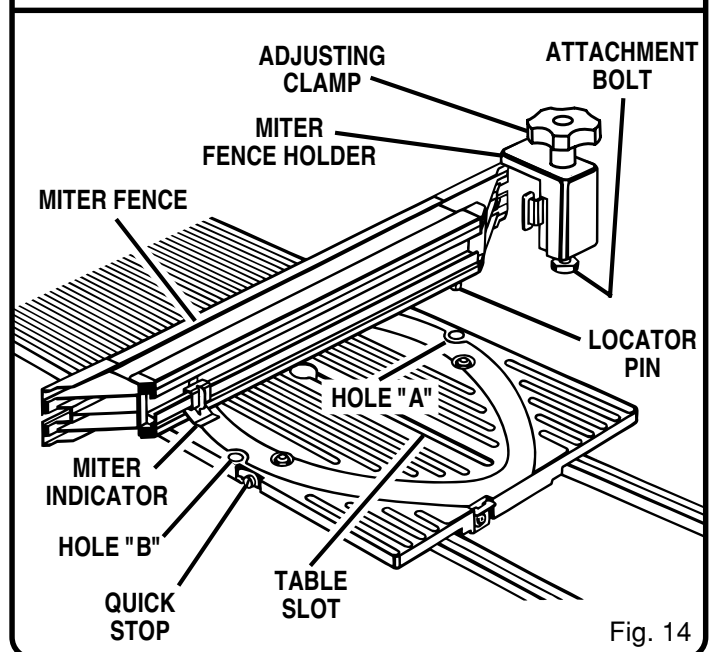

Fig. 14
- To install the miter fence holder to the miter fence, loosen the attachment bolt by turning the adjusting clamp (the knob on top) counterclockwise. Make sure the adjusting clamp is loose enough so the bolt has enough clearance to slide in the table slot. Slide the tabs into the grooves in the miter fence. See Figure 14.